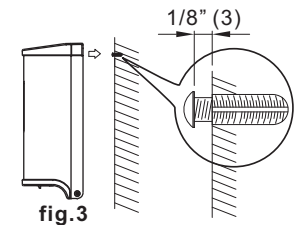
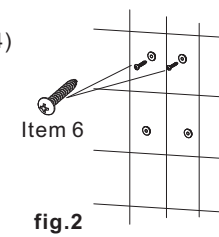
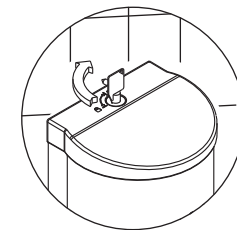

fig.3
fig.2
fig.4
4. Insert two (2) screws (supplied) into top plastic anchors and leave 1/8" (3) space from the wall under head (fig. 2 and fig. 3) for hanging dispenser.
5. Hang the dispenser on the two (2) screws through the keyhole slots at backplate top.
6. Use key to unlock and pull forward the housing cover (fig. 4).